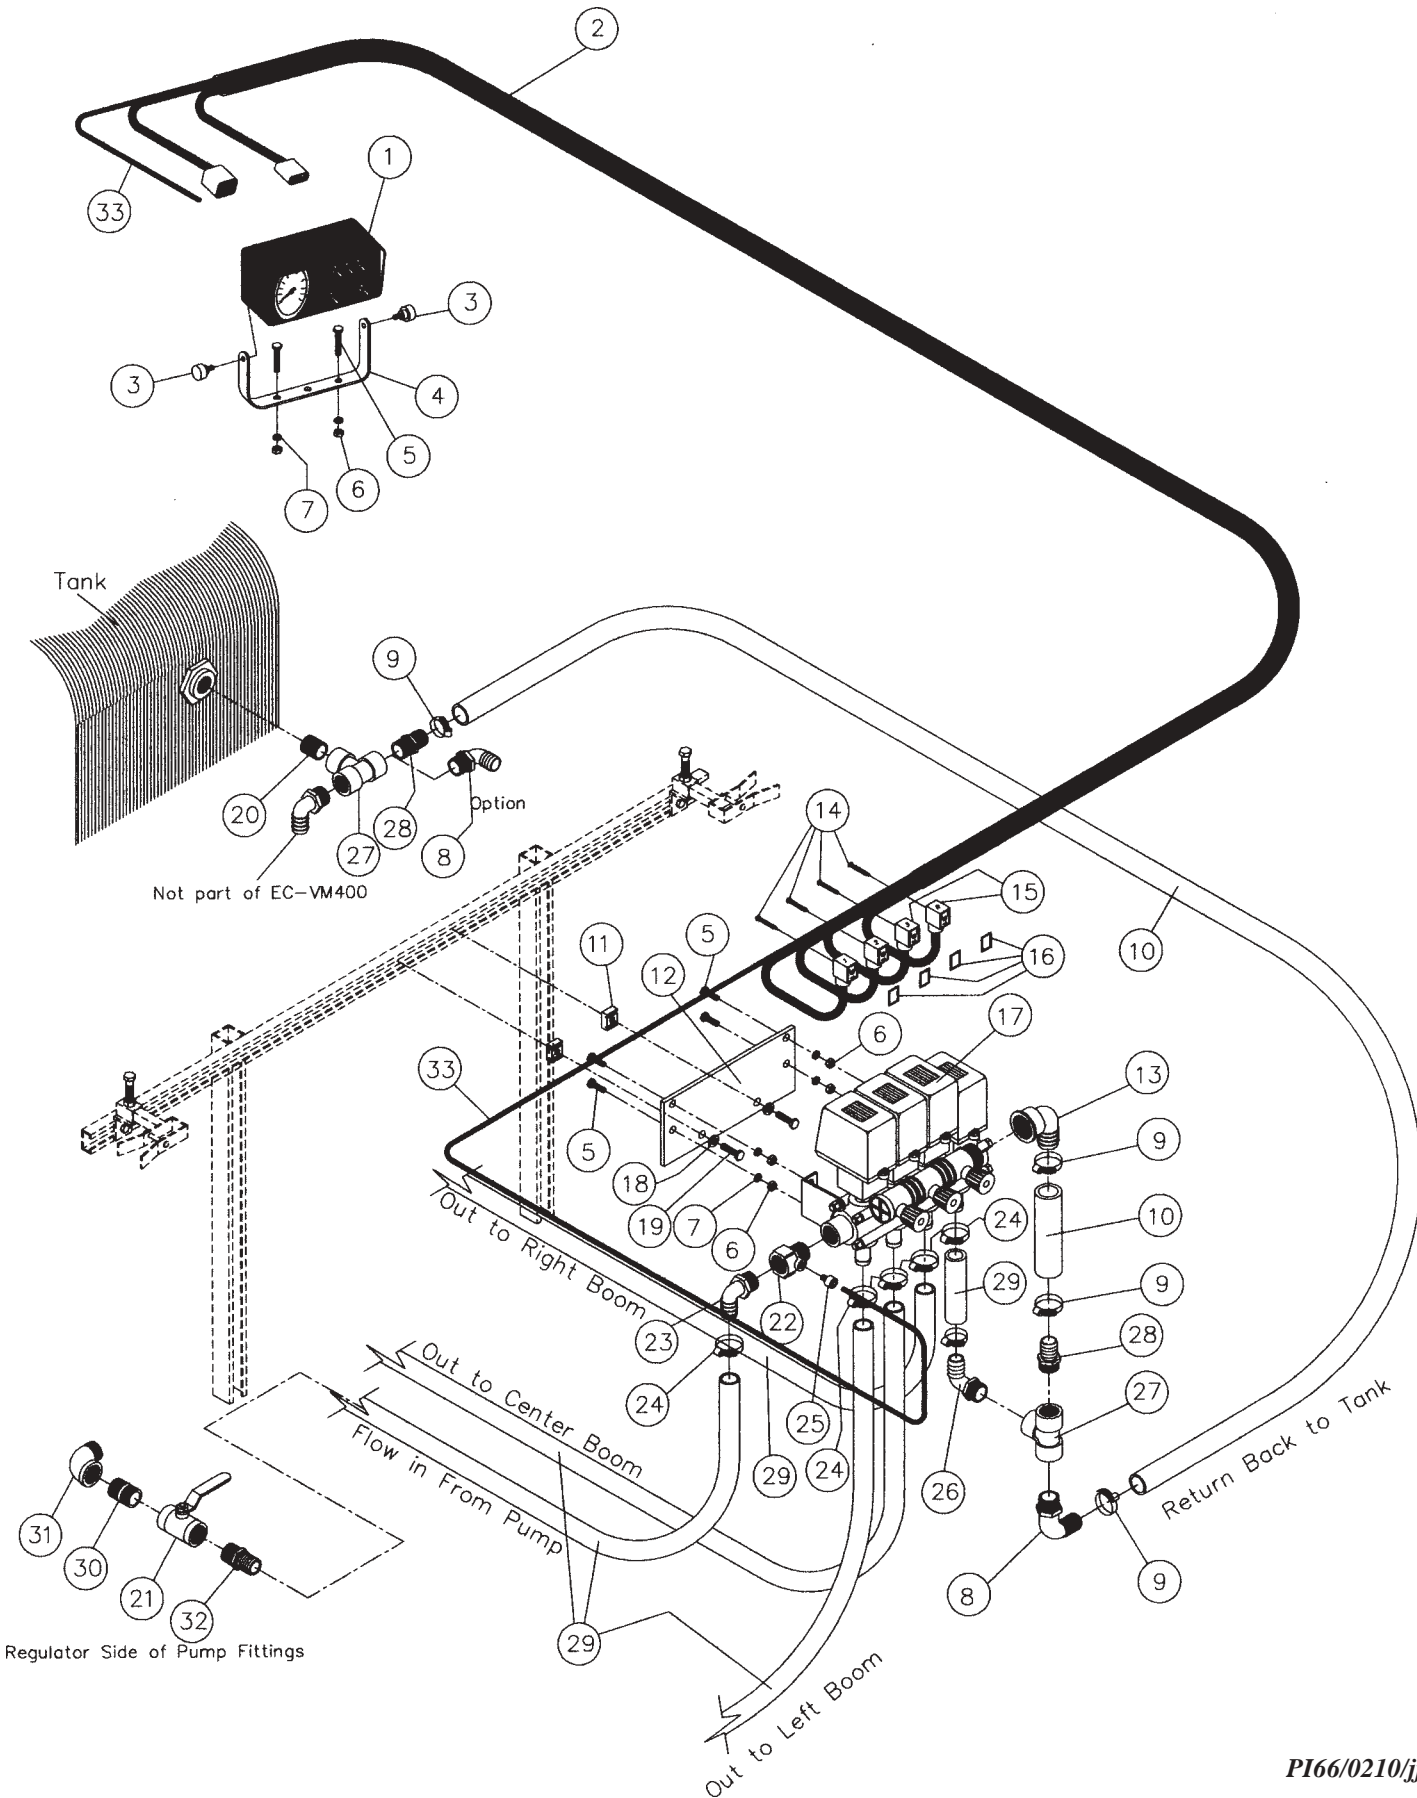

*Figure 1*
4. Close all three (3) **Metered Bypass Valves** (red knobs), by turning knobs in a clockwise direction as far as they will go (Figure 1).
5. Open all three (3) sections of the boom from the **Control Panel**. Set desired operating pressure using electric **Control Switch** on the **Control Panel**. To set the **Metered Bypass Valve**, close one (1) boom section at a time. Then open the **Metered Bypass Valve** for that boom section until the desired operating pressure is achieved.
6. **Repeat** the above procedure for the **center and right boom sections**, making sure the other two (2) boom sections are open.